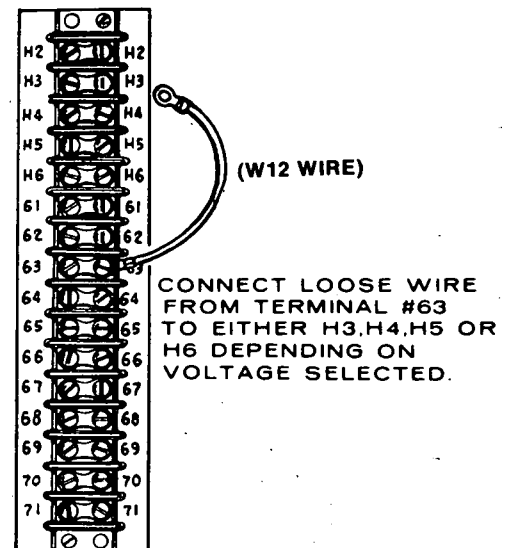

FIGURE 18. REFERENCE VOLTAGE CONNECTION (TB21)
3. Open hinged control panel doors. Connect lead from terminal 63 to correct terminal for voltage desired. These terminals are labeled H2, H3, H4, H5 and H6. See Figure 18.